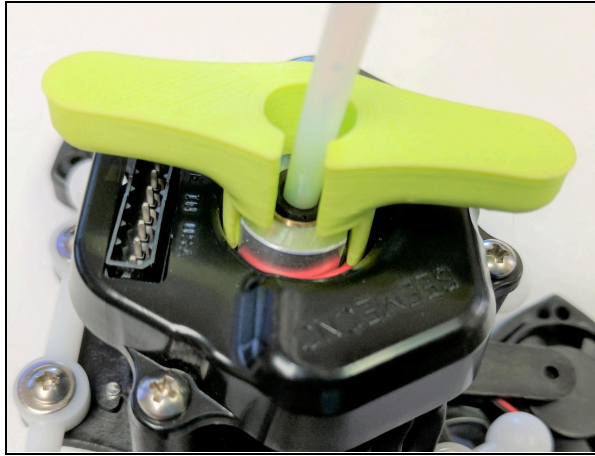

Figure 3. PTC Tool on PTC Adapter
5. While maintaining downward pressure on the PTFE tube, tighten the PTC adapter slowly (Figure 3). Ensure that the heat sink, and heater block are not rotating while you are tightening the PTC adapter.